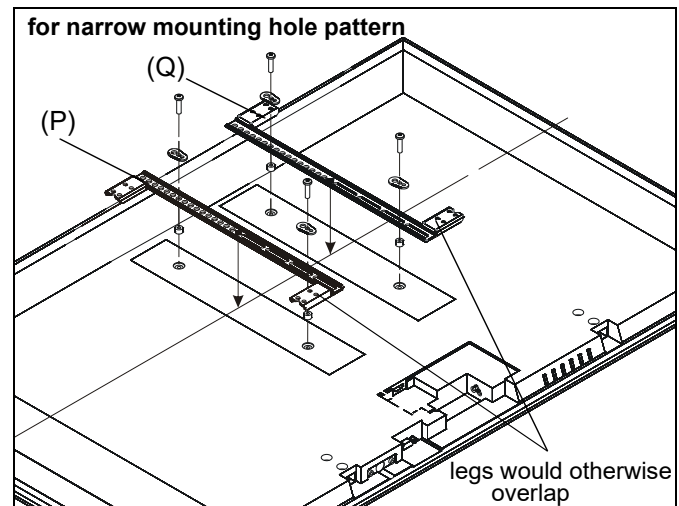

Figure 21
5. Place uprights (P and Q) on display, ensuring: (See Figure 21)
NOTE: If installing to a display with a narrow hole mounting pattern, reverse uprights (P and Q) so that the upright legs do not overlap onto each other. (See Figure 21)